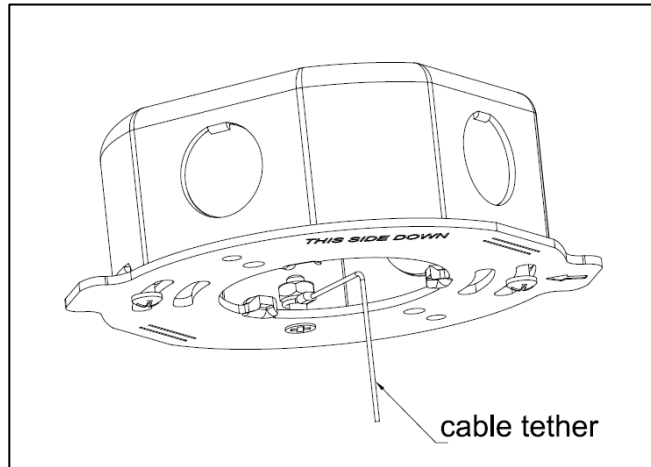

Figure 5
- After fastening the Mounting Plate to the Junction Box, attach the eyelet end of the safety Tether Cable at the provided 12mm screw location, then thread the tether eyelet through the top end of the 12mm screw and secure eyelet with the supplied nut by tightening it on top of the eyelet shown in *Figure 5*.